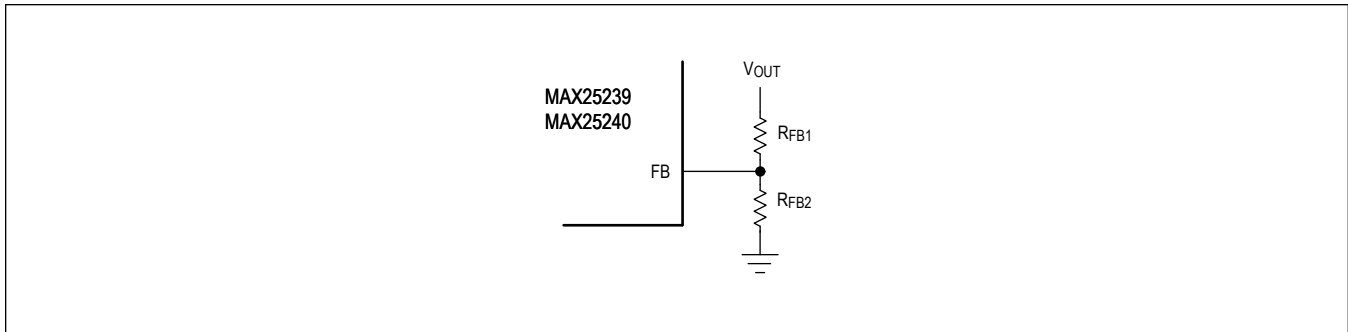

Figure 1. Output Voltage External Adjustment
Connect FB to V_{CC} to enable the fixed output voltage set by a preset internal resistive voltage-divider connected between the feedback pin (FB) and AGND. To externally adjust the output voltage between 3V and 20V, connect a resistive voltage-divider from the output (OUT) to FB to AGND, as shown in Figure 1. Calculate R_{FB1} and R_{FB2} using Equation 12.